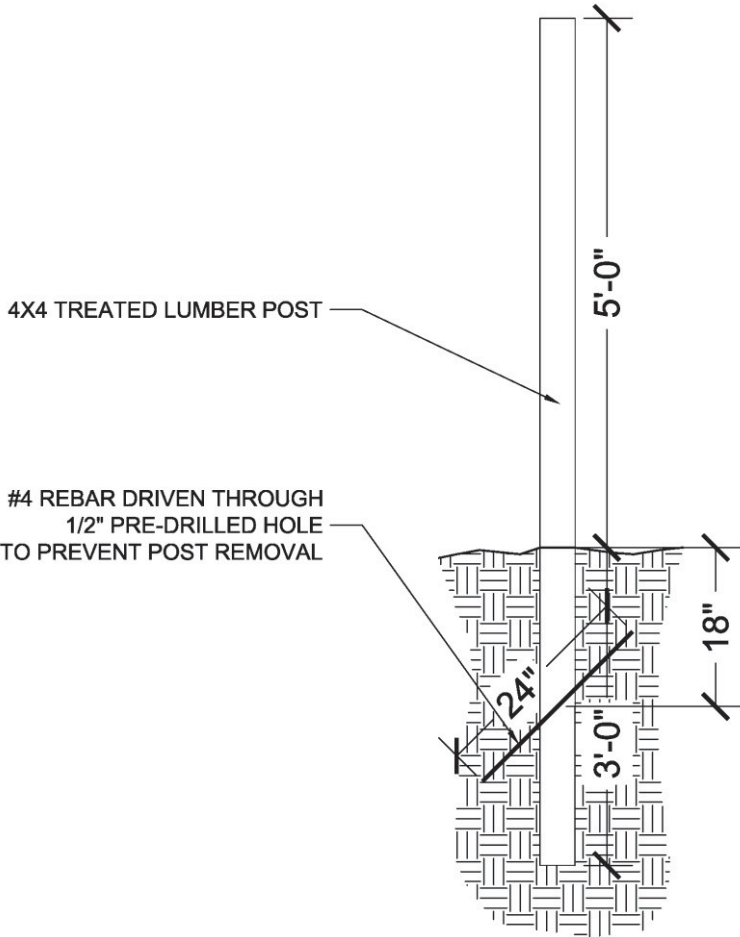

Figure 16: Map Post Installation (NTS)
4.18 Map Post Installation (figure 16)
Install map post according to (figure 16). Treated lumber shall be treated in accordance with AWPA Standard C2/C9 with ACQ 0.4 LBS/CF Ret. And 0.6 LBS/CF Ret. for 4x4 map posts and wood in contact with the ground. Unapproved treated lumber, creosote soaked railroad ties, or similar lumber cannot be used since these would introduce toxins into the natural environment. Map post locations to be marked in the field by the Club.